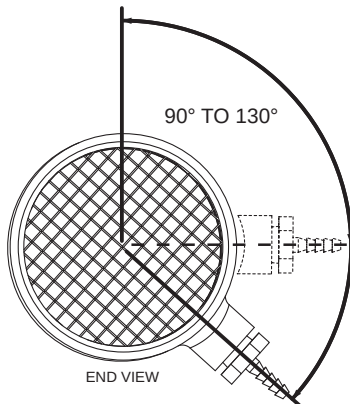

Figure 15. Orientation of Intake Air Tee Fitting
Ensure the hose barb installed in the Tee fitting **IS NOT** facing down towards the ground (180° - 6 o'clock position) before venting installation begins. The barb fitting must be angled between 90° and no more than 130° as shown in *Figure 15*. If the barb fitting is facing down, residual condensate that occasionally forms in the intake air pipe can drain into the Blocked Intake Air switch through the attached sensing tube and damage the switch. This condition can also lead to Blocked Intake Air fault conditions and associated control system lock outs.
The intake air Tee fitting is factory installed with the 1/2 inch branch and hose barb angled to the right at approximately 130° when viewed from the end, see *Figure 15*. The Tee fitting's 1/2 inch branch and hose barb must not be angled any lower (towards the ground) than this factory specification. Angling higher, up to a 90° position, will not adversely affect operation and is acceptable.
Inspect the angle of the Tee fitting's 1/2 inch branch and hose barb while viewing from the end of the Tee. See *Figure 15*. If the angle of the Tee fitting 1/2 inch branch and hose barb is lower than shown, adjustment will be necessary. To adjust the intake air Tee fitting angle follow the steps listed below.
4. Adjust the angle of the Tee fitting so that the 1/2 inch branch and hose barb are at the proper angle as shown in *Figure 15*.